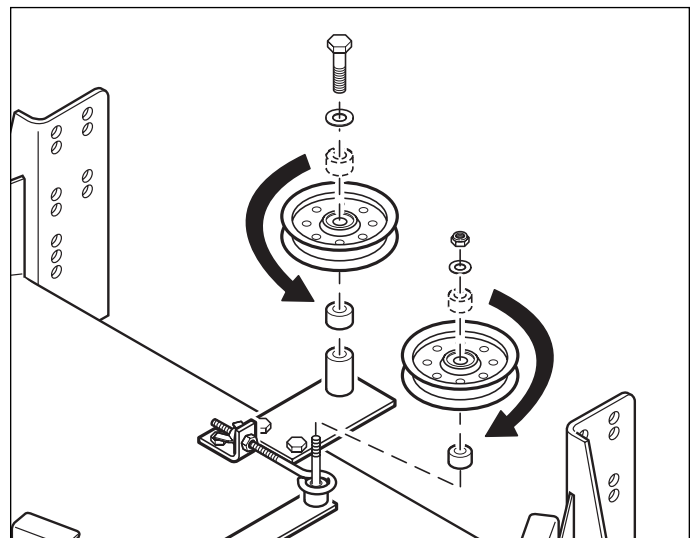

Figure 17. Adjust Idler Pulley Spacer Position
2. Move the idler pulley spacers from the top of the pulley to the bottom of the pulley. See Figure 17.